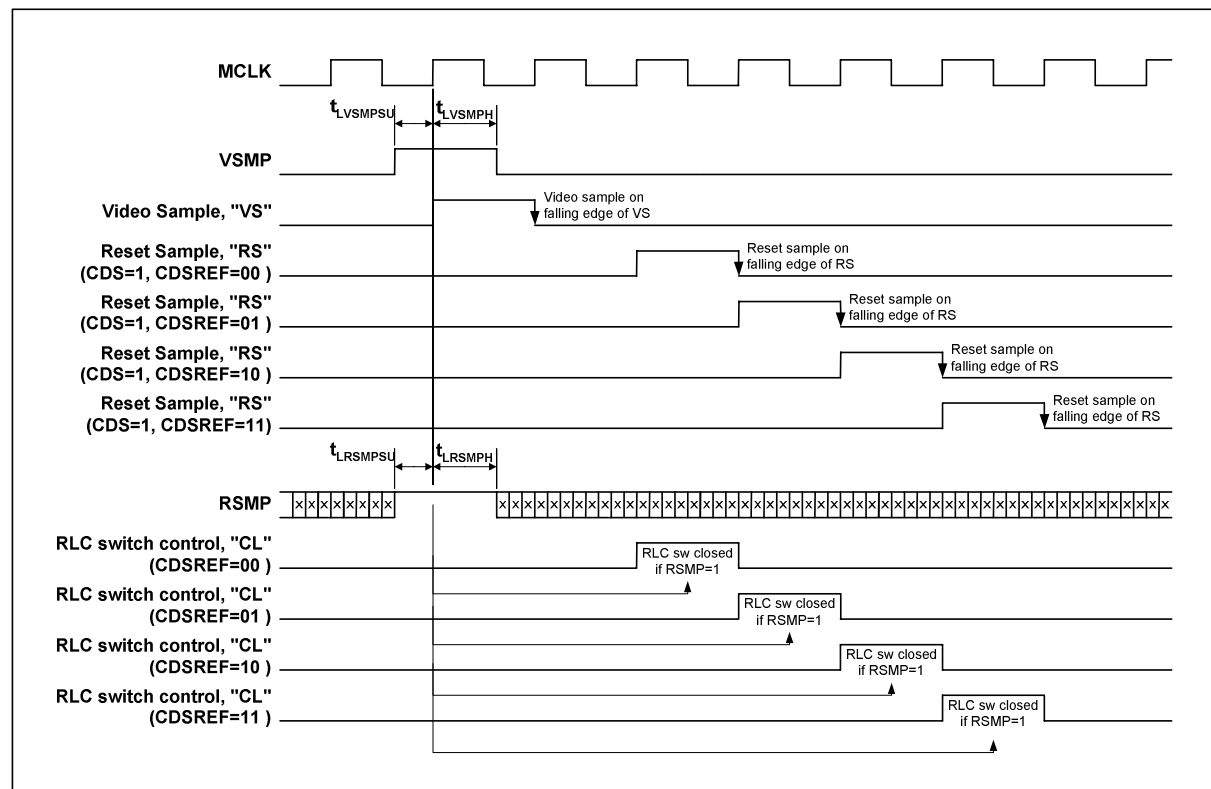

Figure 11 LEGACY Mode RLC and Sampling (LEGACY=1)
Reset Level Clamping in LEGACY mode is only possible in CDS mode and the time at which the clamp switch is closed is concurrent with the reset sample period, RS, as shown in Figure 11. RLC can be enabled on a pixel by pixel basis under control of the RSMP input pin. If RSMP is high when VSMP is high and is sampled by MCLK then clamping will be enabled for that input sample at the time determined by CDSREF[1:0]. If RSMP is low at this point then the RLC switch will not be closed for that input sample. If RLC is required on every pixel then the RSMP pin can be constantly held high in LEGACY mode.
In LEGACY mode the input video signal is always sampled on the 1st rising edge of MCLK after VSMP has gone low (VS) regardless of the operating mode. If in non-CDS mode (CDS=0) the voltage on the VRLC/VBIAS pin is also sampled at this point. In CDS-mode (CDS=1) the position of the reset sample (RS) can be varied, under control of the CDSREF[1:0] register bits, as shown in Figure 11.